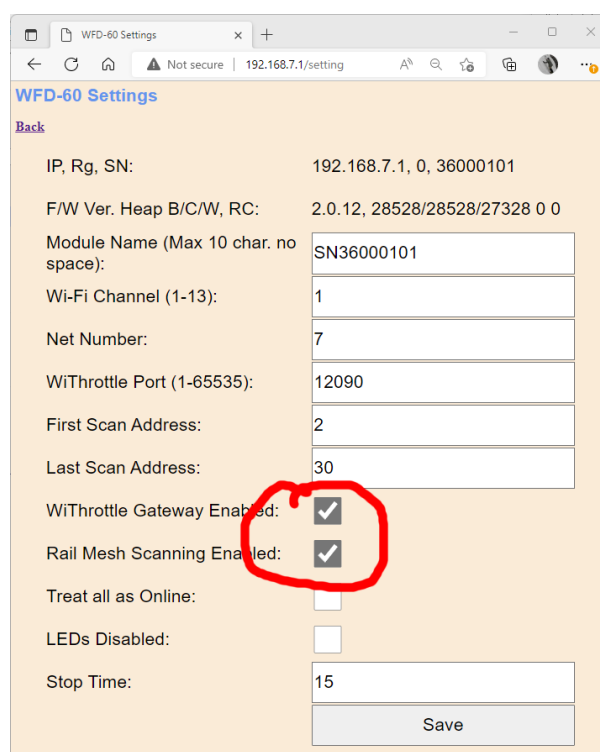

Figure 27 The Settings Page for the WFD-60. Make sure both the Circled Checkboxes are Checked
- (6) After leaving the factory or after a factory reset, the settings are configured to make it easy for you but it's not a bad idea to check so tap "Settings" and verify that they appear as in Figure 27.